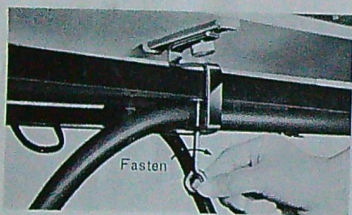

Fig. 7
Fasten the knitter to the table by tightening table clamp screws. It is essential that boss (E) fits snugly into aperture (F). (See Fig.7)